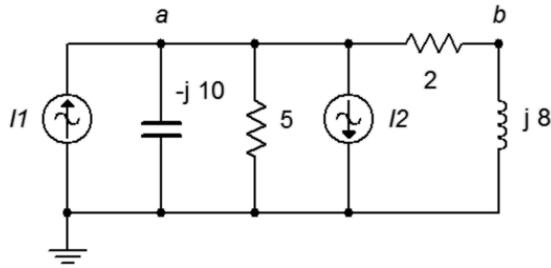

Figure 4.18
29. For the circuit of Figure 4.18, determine voltages  $v_a$  and  $v_b$ .  $I_1 = 2\angle 45^\circ$  A and  $I_2 = 0.5\angle 0^\circ$  A.
30. For the circuit of Figure 4.18, determine the currents through the two resistors.  $I_1 = 2\angle 45^\circ$  A and  $I_2 = 0.5\angle 0^\circ$  A.